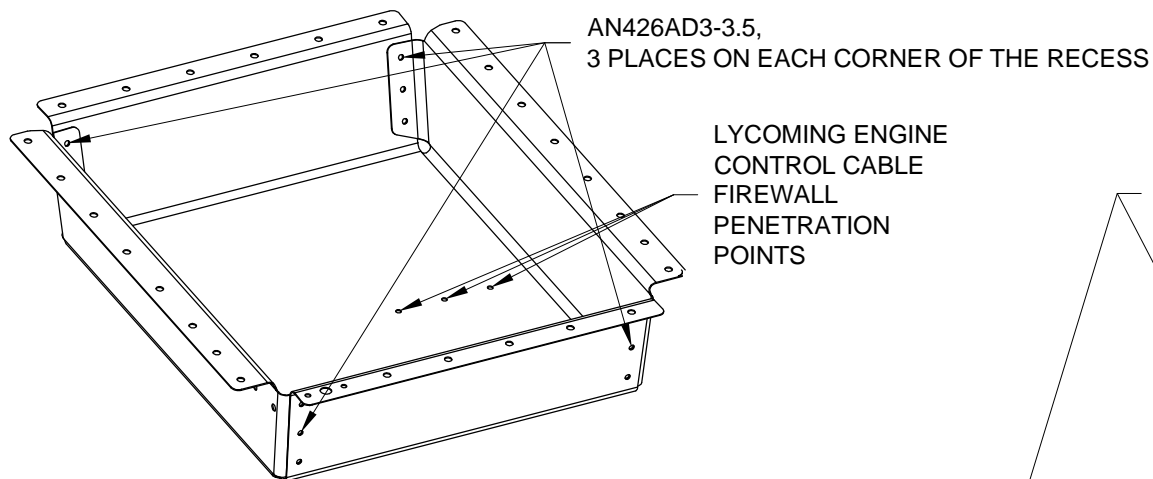
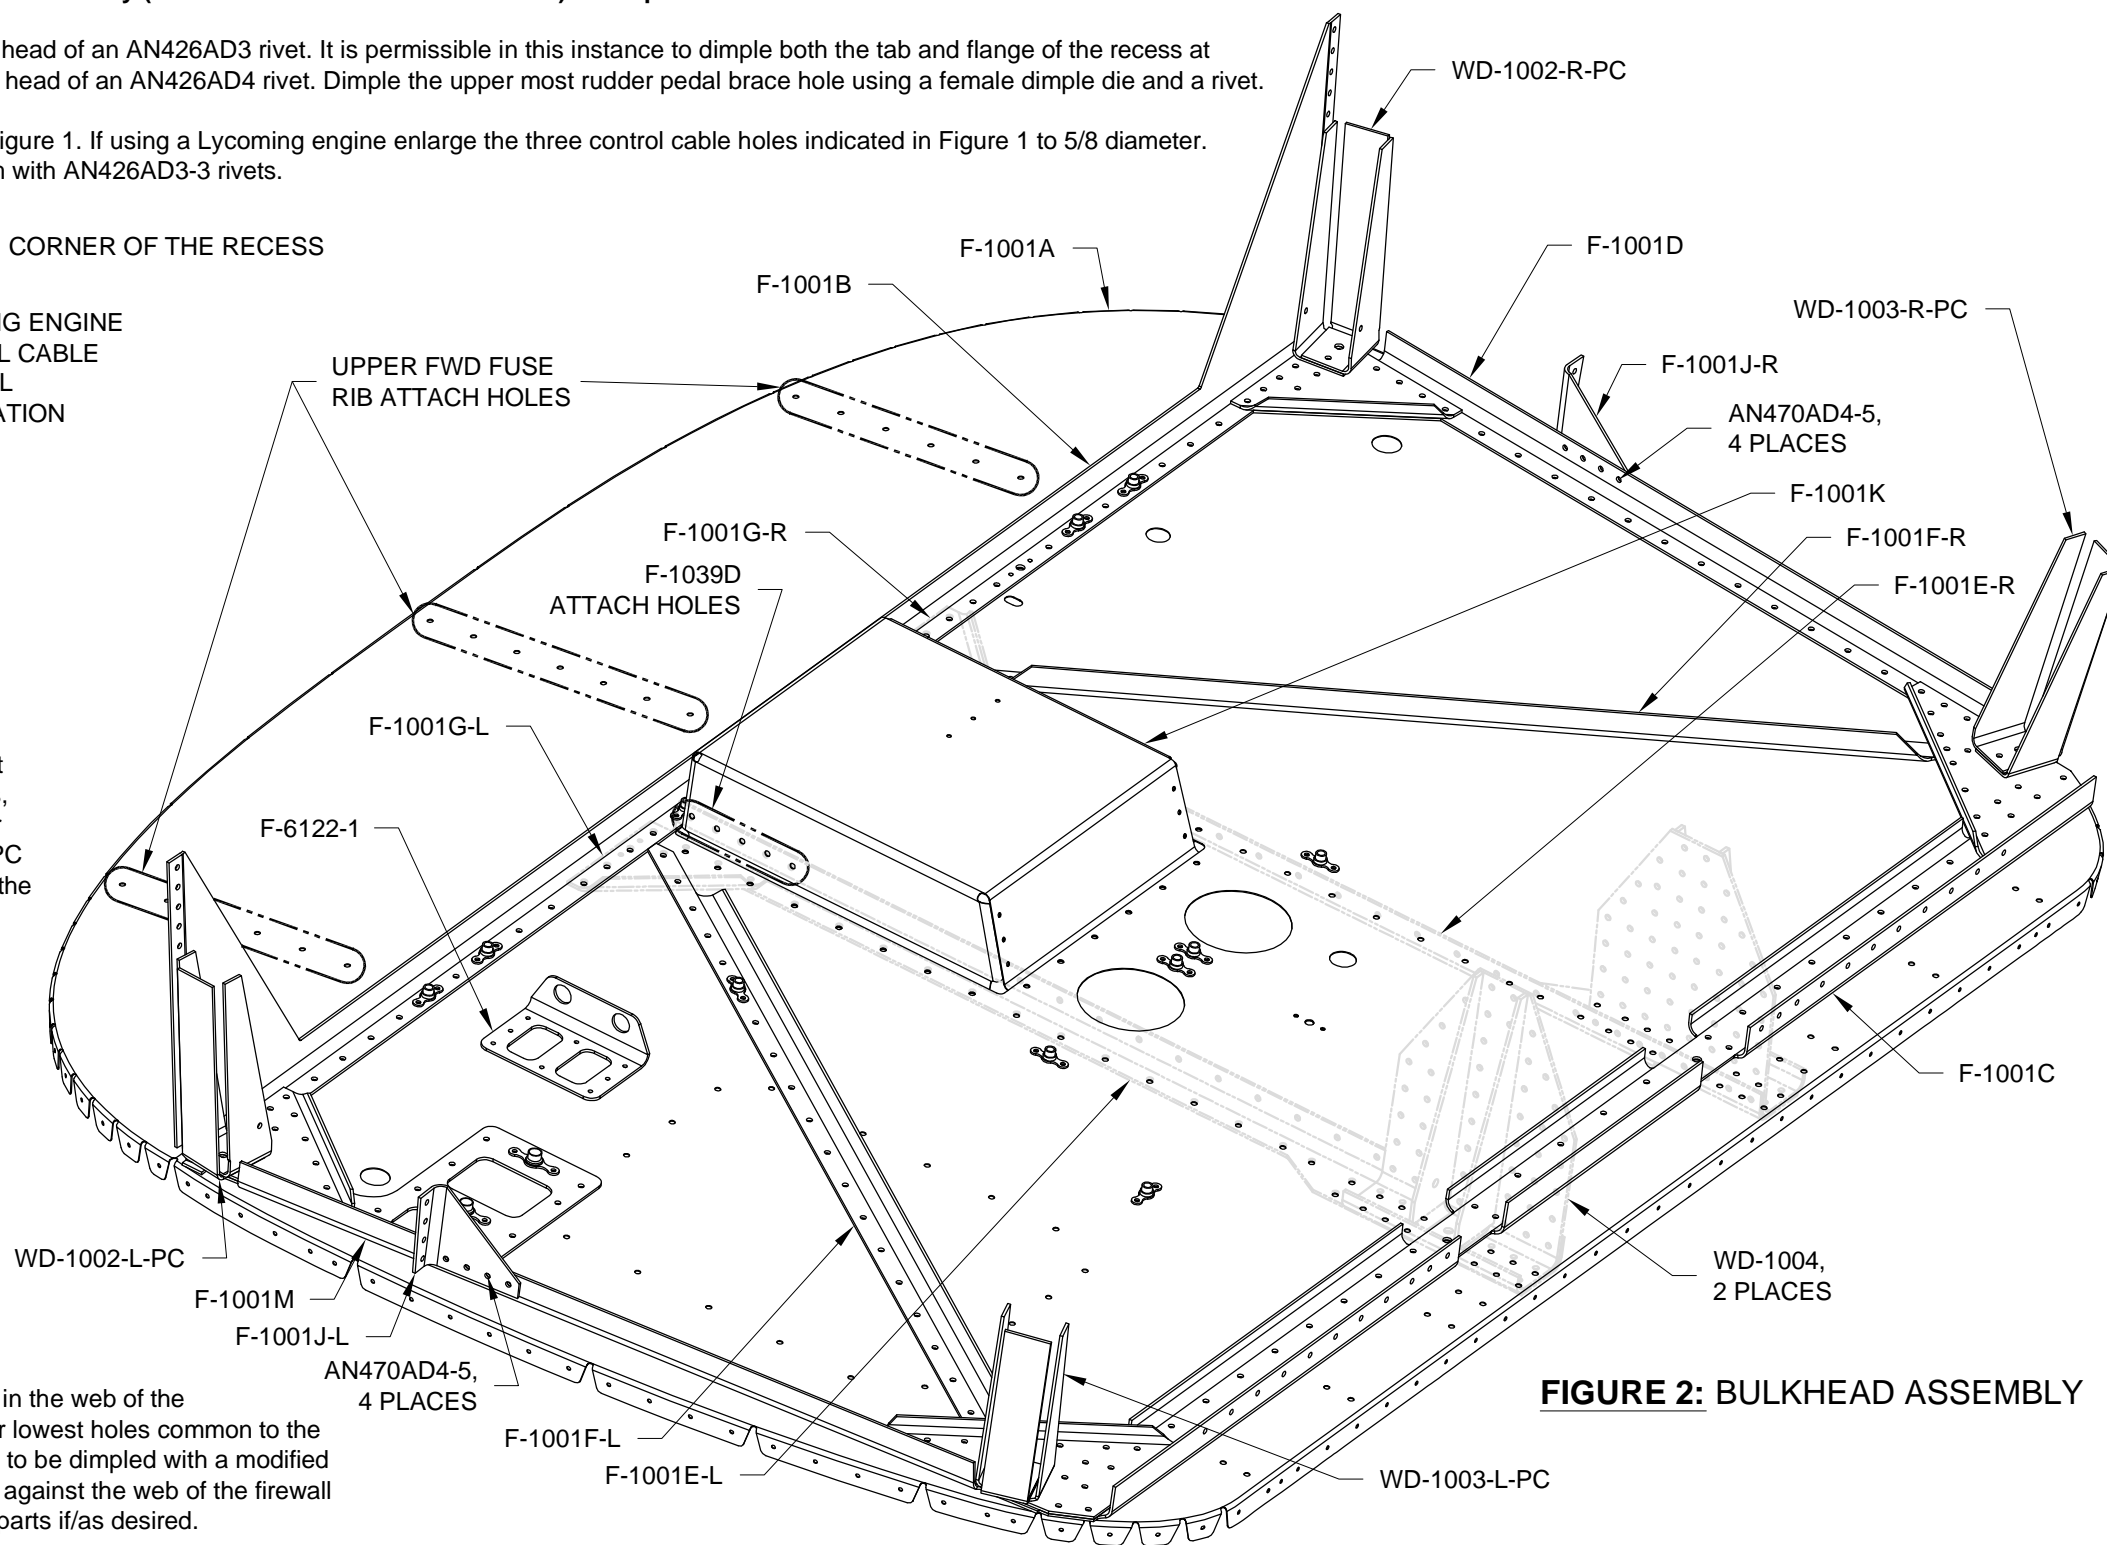

FIGURE 1: PREPARING THE RECESS
FIGURE 2: BULKHEAD ASSEMBLY
Step 1: Cleco then final-drill #40 all the holes that attach the F-1001K Recess to itself (See Figure 1). Final-Drill #30 the five F-1039D Rudder Pedal Brace attach holes in the side of the recess as called out in Figure 2.
Step 3: Rivet the holes that attach the F-1001K Recess to itself as called out in Figure 1. If using a Lycoming engine enlarge the three control cable holes indicated in Figure 1 to 5/8 diameter. If not using a Lycoming engine final-drill and dimple these holes #40 then fill them with AN426AD3-3 rivets.
The F-1001J-L and -R Longerons Gussets come tabbed together. Break the F-1001J into the left and right gussets and deburr the edges. Cleco the gussets to the left and right side angles as shown in Figure 2.
Step 5: Final-Drill #40 all the nutplate attach rivet holes. Final-Drill the screw holes for the two K1000-4 nutplates 1/4 diameter and the screw holes for the fourteen K1000-3 nutplates #12. Final-Drill #40 the eight holes common to the F-1001A Bulkhead and the F-6122-1 Tri-Gear Brake Bracket. Final-Drill #30 all the remaining holes common between the bulkhead and the parts clecoed together in Step 4. Final-Drill #30 all the holes common to the F-1001J-L and -R Longerons Gussets and the F-1001D and F-1001M Side Angles. Final-Drill #30 all remaining open holes that attach the oil cooler (see Page 27-5 Figure 1) and the open holes for the upper fwd fuse ribs, see Figure 2.
Cleco the two K1000-4 and fourteen K1000-3 nutplates to the firewall as shown in Figure 2 and Page 27-5, Figure 1. Note that all but two of the nutplates attach to the aft side of the firewall, see Page 27-5, Figure 1. Rivet the assembly together per the callouts in Page 27-5, Figure 1. **Do not rivet any of the holes common to the center angles, gussets or nose gear tension fittings until Page 27-4!** If not using a Lycoming engine fill the holes that attach the oil cooler box (see Page 27-5, Figure 1) except those common with the F-1001M Left Side Angle with AN426AD4-4 rivets. The finished Firewall Bulkhead Subassembly is shown in Figure 2 (note the center angles, gussets and nose gear tension fittings that are not riveted at this time are shown transparent).